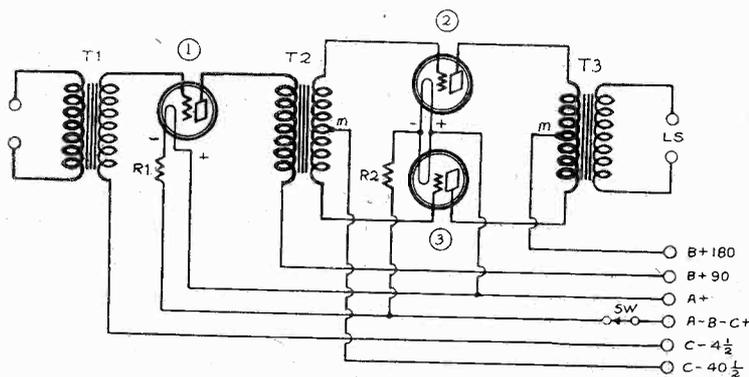

FIG 12
The push-pull amplifier depicted in Fig. 12, differs from the amplifier in Fig. 10 only by the fact that the second stage is push-pull, or symmetrical. Two tubes, (2) and (3), of identical